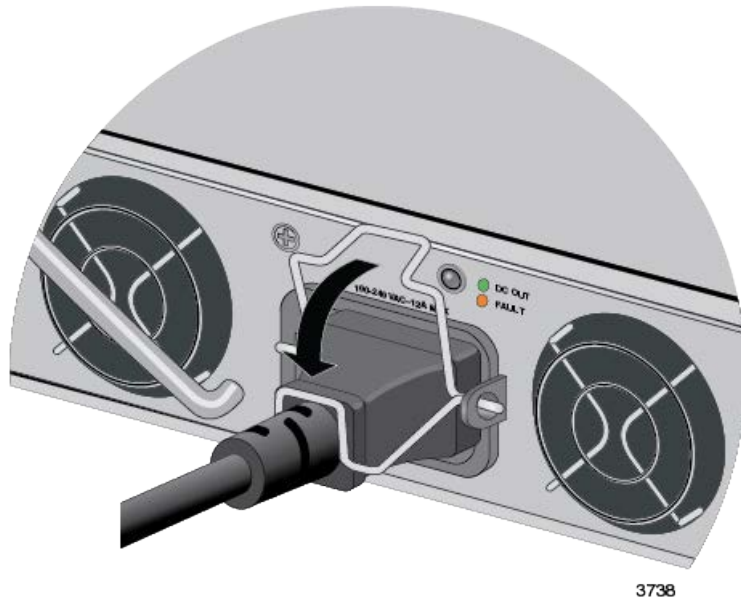

Figure 59. Lowering the Power Cord Retaining Clip
3. Lower the power cord retaining clip to secure the cord to the switch. Refer to Figure 59 on page 119.